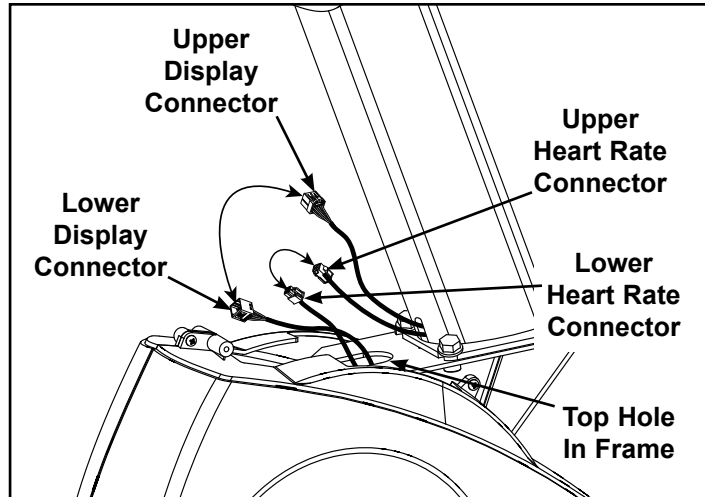

Figure 5
- F. Locate the upper display cable connector and plug it into the lower display cable connector. See Figure 5.
- G. Locate the upper heart rate connector and plug it into the lower heart rate connector. See Figure 5.
- H. Tuck each of the cable connectors into the top hole in the frame. See Figure 5.